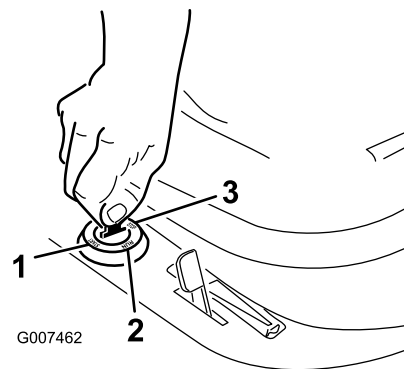

Figure 11
- Turn the ignition key clockwise and hold it in the Start position (Figure 11). When the engine starts, release the key.
- Turn the ignition key to Stop (Figure 11).